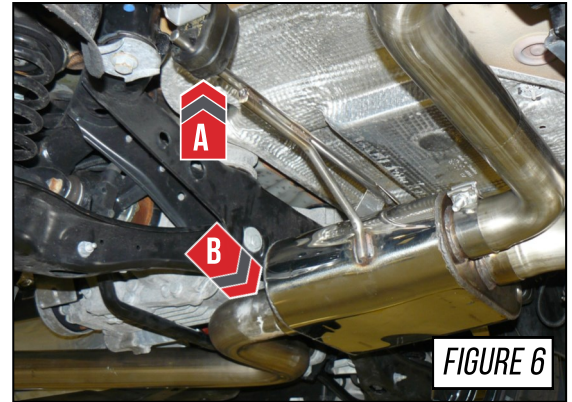

FIGURE 6
Transfer the exhaust hangers from the OE rear muffler to the Muffler Section (*part A62*), driver side shown by **Arrow A** in **Figure 6**. Passenger side is placed on the opposing side.
Place one (1) of the included 3.0" Accu-Seal clamps over the inlet of the muffler section and install onto the outlet of the axle tube, as shown by **Arrow B** in **Figure 6**.
**NOTE:** The orientation of the rear muffler is critical to tailpipe fitment. The 2.5" outlet must be on the driver side of the vehicle, as shown in **Figure 6**.